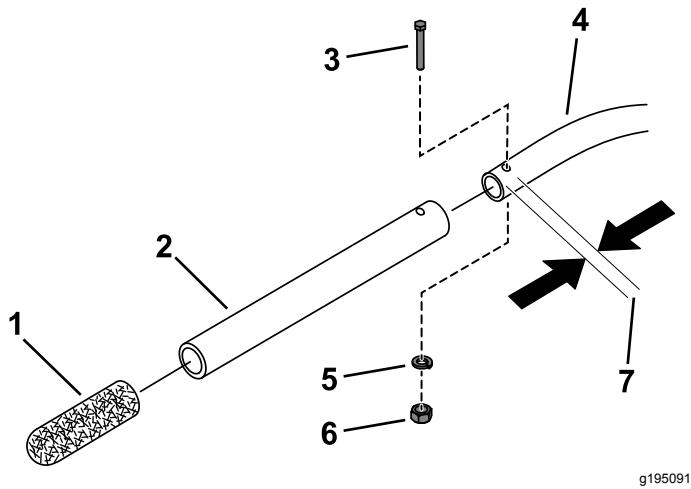

Figure 9
1. Remove and set aside the grip from the handle on the core harvester (Figure 9).
2. Drill a 9/16 hole, 2.5 cm (1 inch) from the end hole of the core-harvester handle (Figure 9).
3. Use the bolt (1/4 x 1-1/2 inches), lock washer, and nut to secure the handle extension to the core-harvester handle (Figure 9).
4. Slide the grip onto the handle extension (Figure 9)